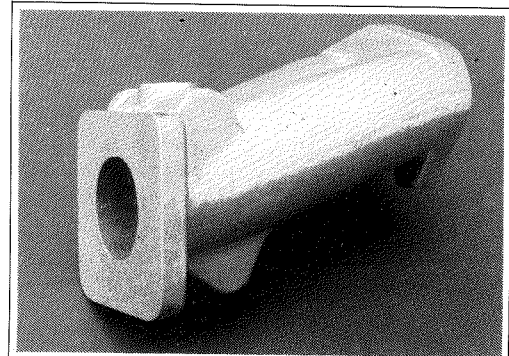

Fig 7. The manifold as cast showing square
1. The first job was to get the cylinder head and carb mounting flanges machines square, parallel and to size. Fig 7, 8, 9.